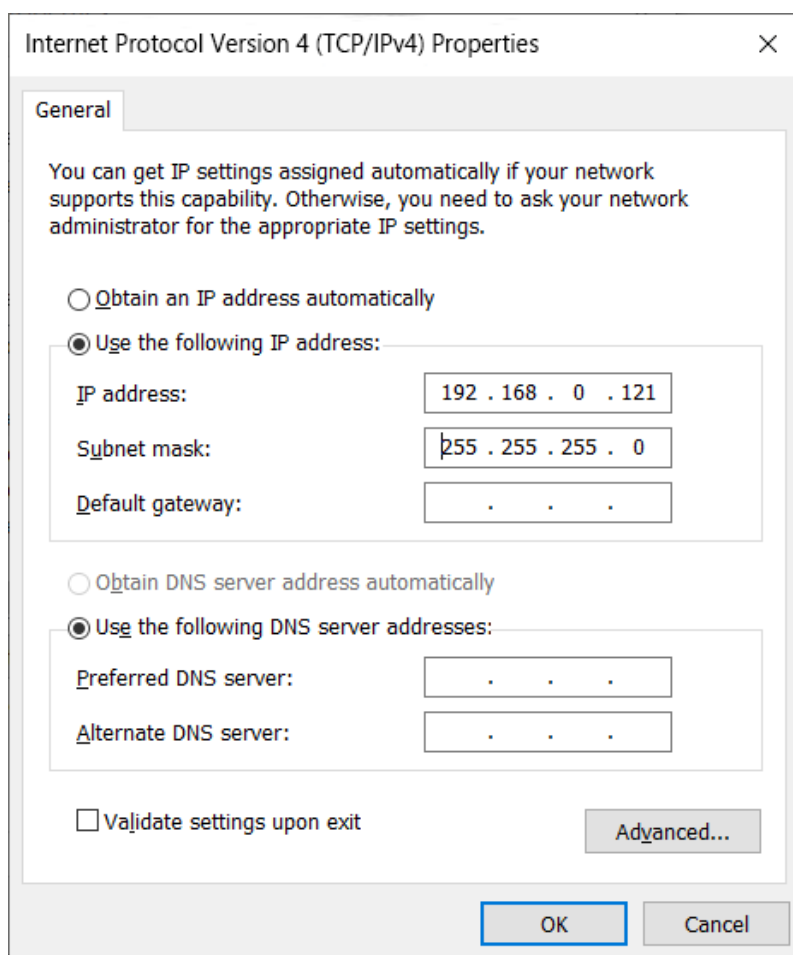

Figure 4-3.2 Fixed IP settings
2. Change the IP address of the cable network adapter to a fixed IP address, as shown in Figure 4-3.2.